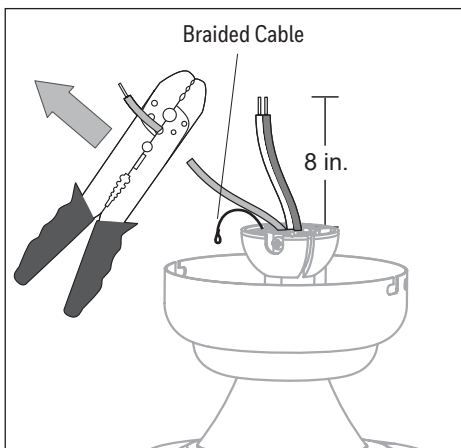

Figure 3.4
4. Depending on the length of downrod you use, you may want to cut the fan wires to simplify wiring. After pulling the wires all the way through the downrod, measure 8 inches of wire. Cut off the excess wire using wire cutters (not included). **WARNING:** Do NOT cut the braided cable. Then, strip 1/2" of insulation from the end of each wire (Figure 3.4).